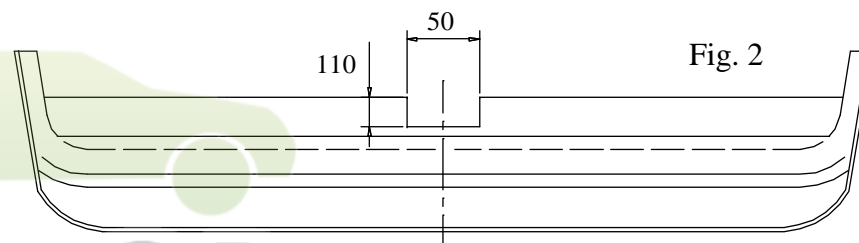

Fig. 2
3. To chassis members tunnels slide the main bar of the towbar (pos. 1), and then fix it using bolts M10x30mm (pos. 5). Use washers (pos. 6).
4. Fix tow-ball (pos. 2) with socket plate (pos. 3) using bolts M12x75mm (pos. 4) from accessories.
5. Cut the bumper according to fig. 2 and reassemble the bumper.